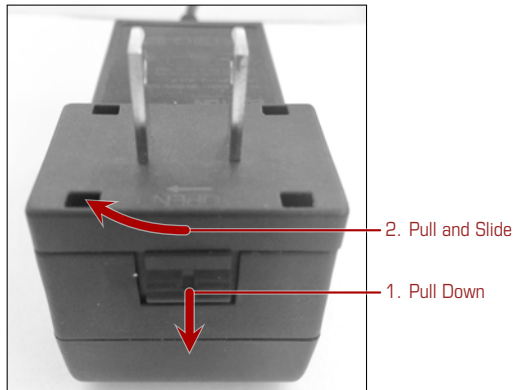

Figure 132: Removing an adaptor from the wall power supply
1. Press the lock and slide the current adaptor to the side out of its socket (Fig. 132, p. 125).